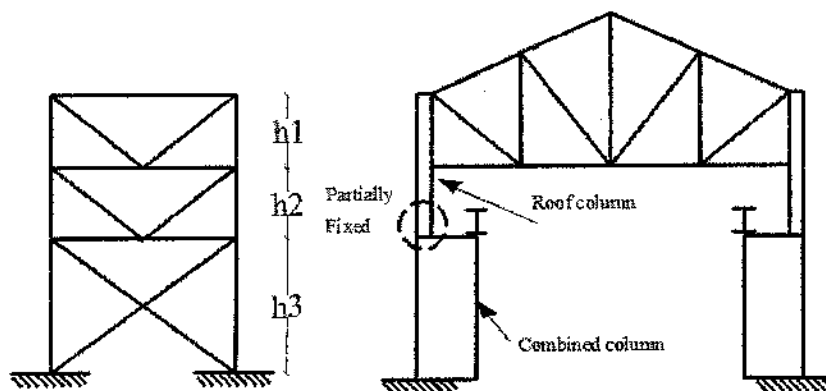
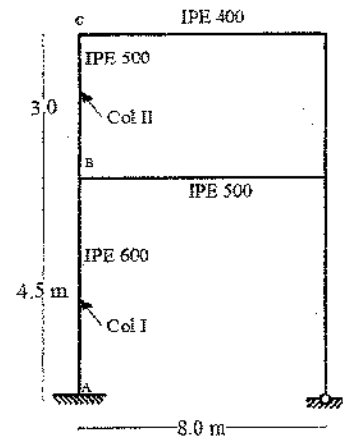

Fig. 3
Fig. 4
- B. Calculate the buckling lengths for roof and combined columns shown in Fig. 3. Also determine the buckling lengths for columns I and II shown in Fig. 4 assuming vertical bracing outside plane connecting columns at floor levels only. **(5 Marks)**